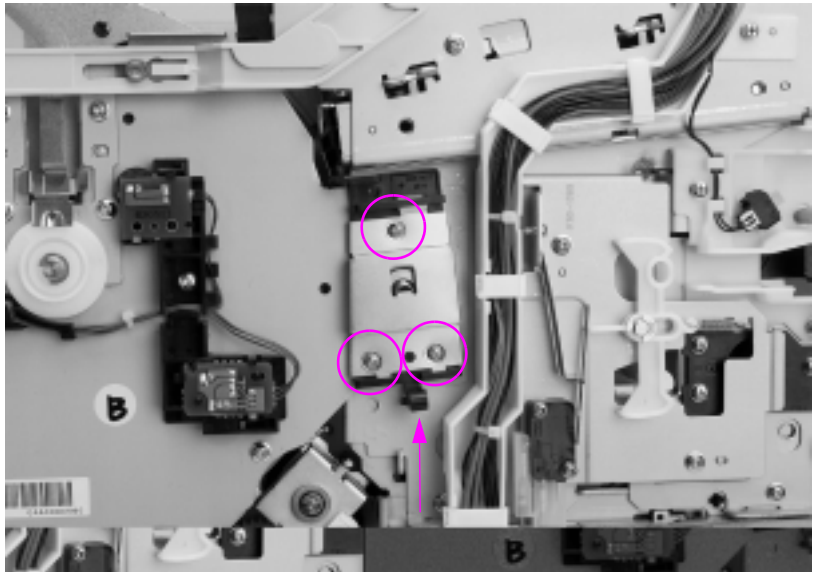

Figure 6-60 Carousel housing assembly removal and replacement (2 of 4)
- 14 Remove the three screws shown in Figure 6-60. Release the two black tabs and pull out the drum plate.